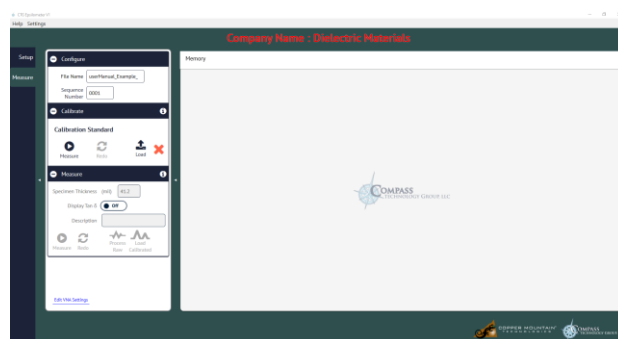

Figure 8. Measurement Screen
1. Select the “Measure” tab on the far-left side of the window. The program will then display that specific measurement window. (Figure 8)